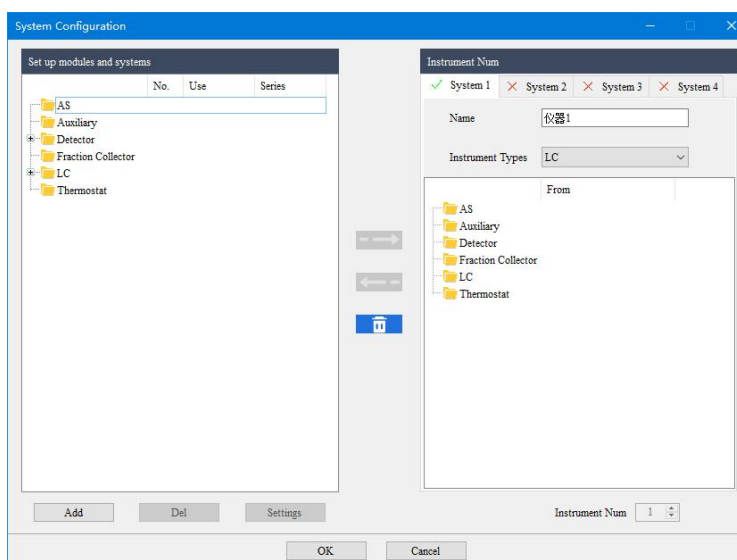
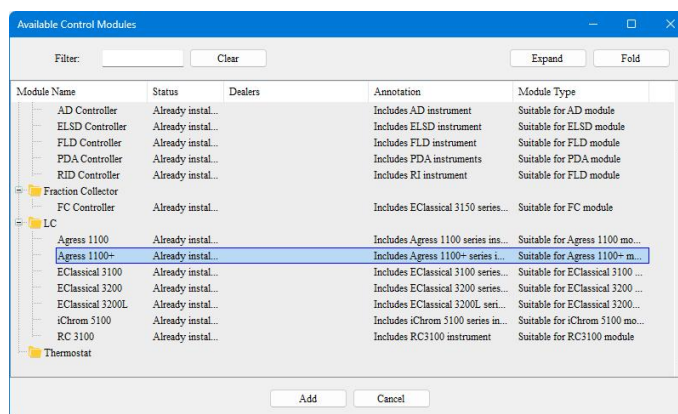

Fig.3-2 Configuration Interface 02
Fig.3-3 Configuration Interface 03
2) The system configuration interface is displayed. As shows in Fig.3-2:
3) Click the "Add" button at the lower left corner of interface Fig.3-2, and the interface as shown in Fig.3-3 will pop up: